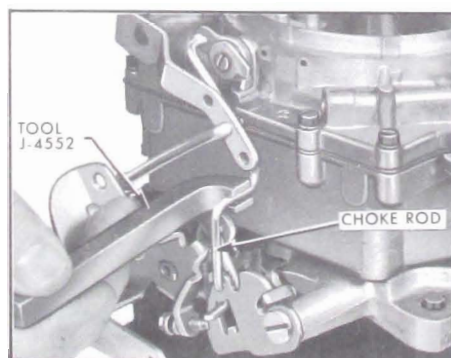

Figure 3-56—Adjusting Fast Idle Cam
2. If choke valve clearance is not correct, bend choke rod as required to obtain this clearance, using Tool J-4552. See Figure 3-56.